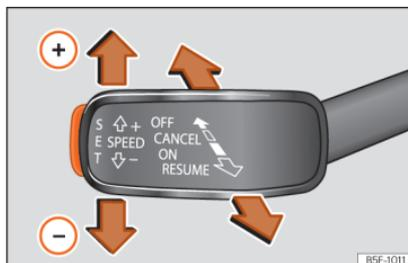

Fig. 54 On the left of the steering column: third lever to operate the CCS.
- Switching on the CCS: move the third lever to **ON** » **Fig. 54**. The system switches on but it does not control the speed as no speed has been programmed.
- Activating the CCS: press the button **SET** » **Fig. 54**. It memorises and maintains the current speed.
- Temporarily switching off the CCS: move the lever to **CANCEL** »» Fig. 54 and release it or press the brake pedal. The cruise control system is switched off temporarily.
- Reactivating the CCS: move the lever to **RESUME** »» Fig. 54 and release it. The memorised speed is saved and controlled again.
- Disconnect the CCS: turn the key to position **OFF** »» Fig. 54. The system is disconnected and the memorised speed is deleted.